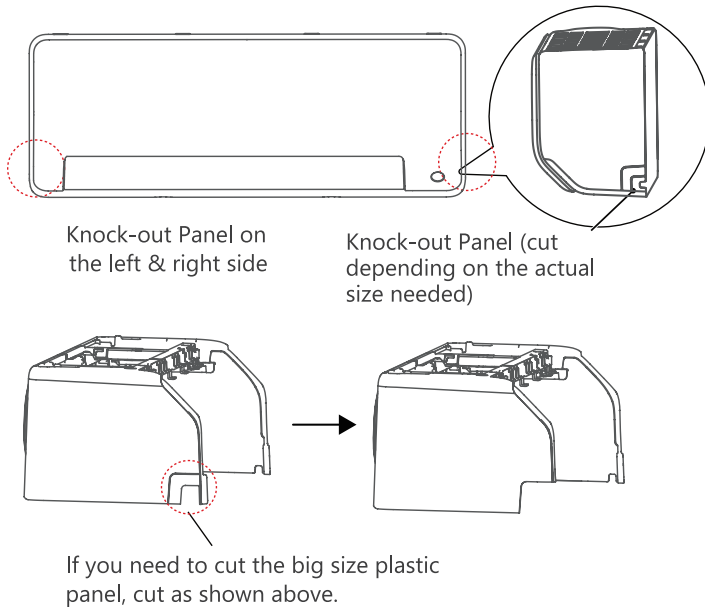

Fig. 3-2: Knock-Out Panel Location
- If the wall hole is behind the unit, keep the knock-out panel in place. If the wall hole is to the side of the indoor unit, remove the plastic knock-out panel from that side of the unit. If the plastic panel is too difficult to remove by hand, use needle-nose pliers. See Fig. 3-2.